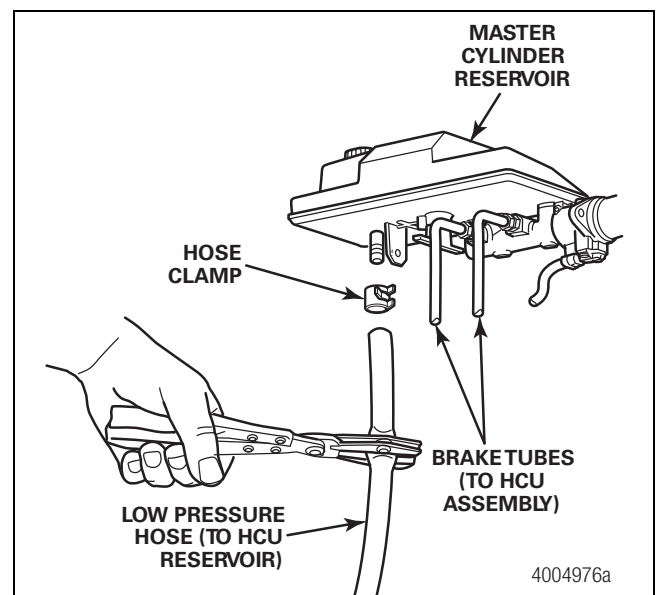

Figure 4
10. Disconnect the low pressure hose from the master cylinder reservoir. All of the fluid coming out of the master cylinder reservoir, approximately one gallon (3.4 liters), should drain into the container. Remove the cap from the master cylinder reservoir to improve the draining process. Plug the low pressure hose to prevent system contamination. Figure 4.